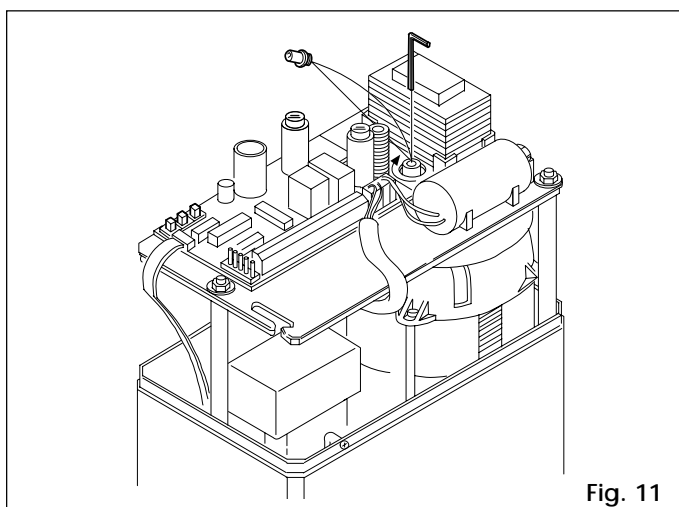

Fig. 11
- 6) Remove the breather screw as shown in Fig. 11 and keep it in a safe place.